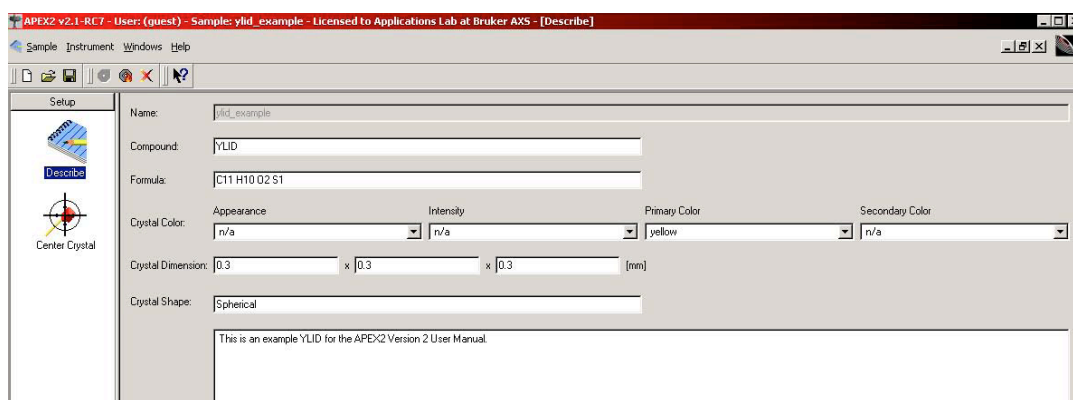

Figure 15
- 24) Before starting data collection, fill in information in the **Describe** window (Figure 15) in Setup under task bar menu.